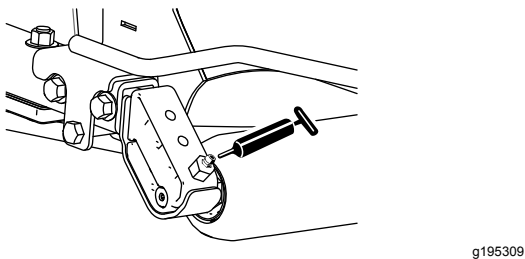

Figure 39
- 2 (per cutting unit) rear roller bearings (Figure 39)